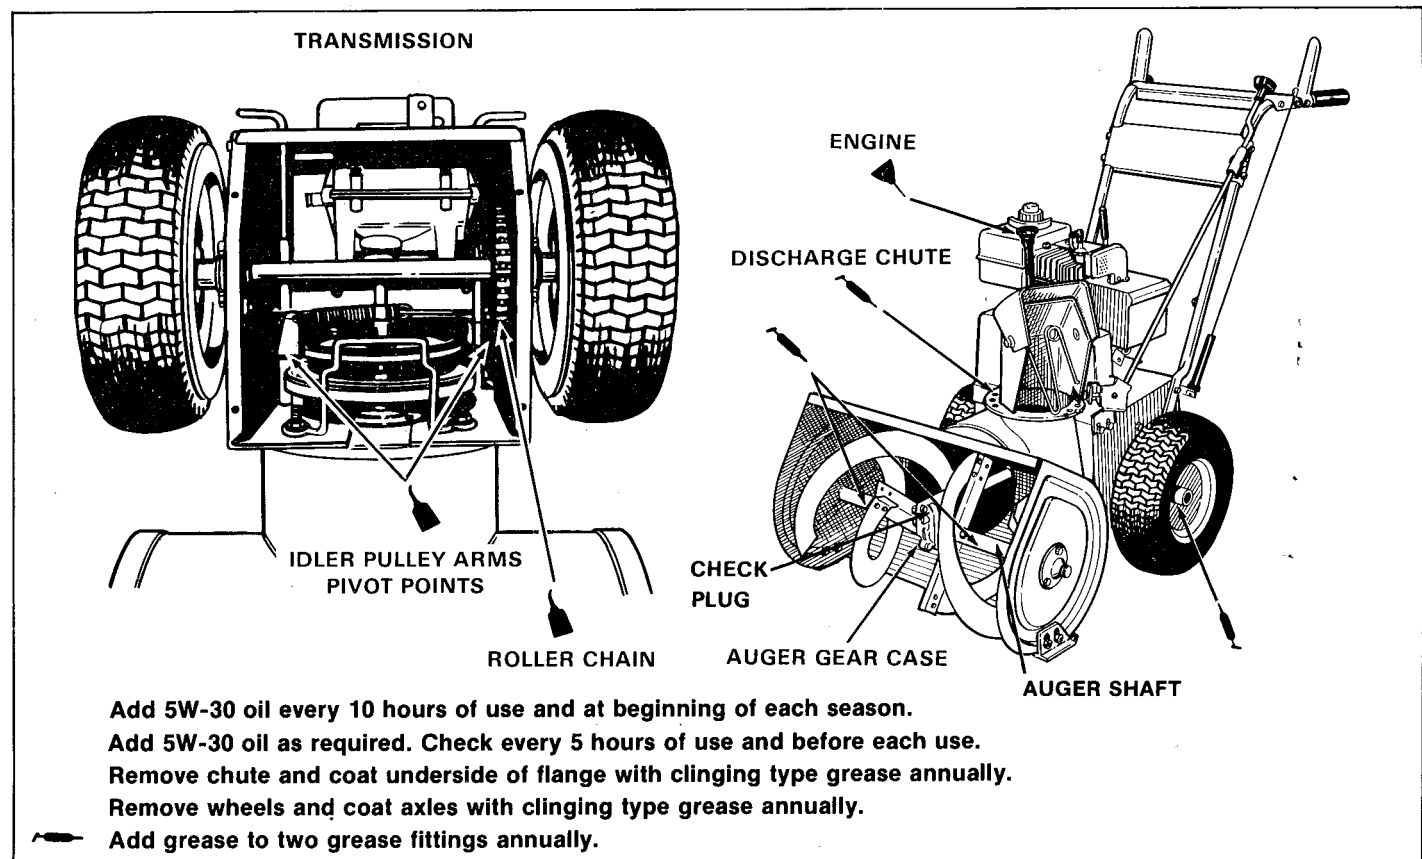

Figure 2. Lubrication Chart
2. The transmission and auger gear case have been factory lubricated for life. If for some reason lubricant should leak out, have transmission or auger gear case checked by your dealer. To check level, remove the check plug (figure 2). The fluid should be level with hole. If not, add Simplicity worm gear oil (available from your dealer).